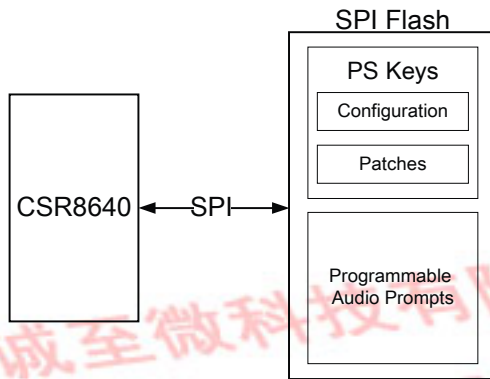

Figure 16.1: Programmable Audio Prompts in External SPI Flash
- An external SPI flash, in this implementation the prompts are stored in the same SPI flash as the PS Keys, see Figure 16.1.